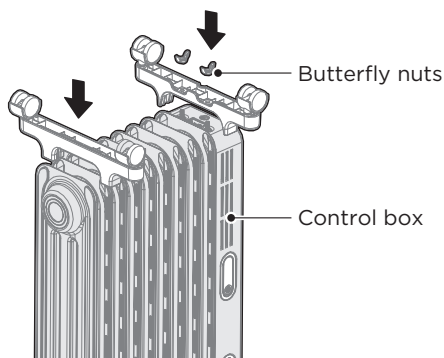
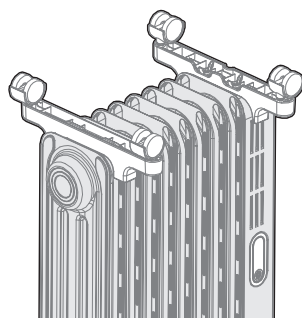

Figure 2
Figure 3
- 2 As shown in Figure 2 and Figure 3, first turn the heater body upside down with the bottom facing up, align the support assembly with two circular through holes with the two screws at the bottom of the control box and put it down freely, tear off the blue tape on the support foot and take out the butterfly nuts, and finally lock it with the butterfly nuts; In addition, the mounting groove of feet assembly with clamping groove is aligned and clamped on the second heat sink.